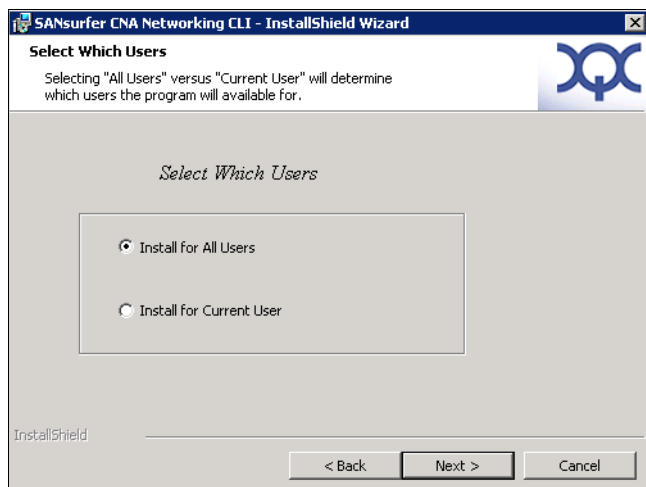

Figure 7-74 Select Which Users window
3. In the Select Which Users panel (Figure 7-74), select **Install for All Users**, and then click **Next**.